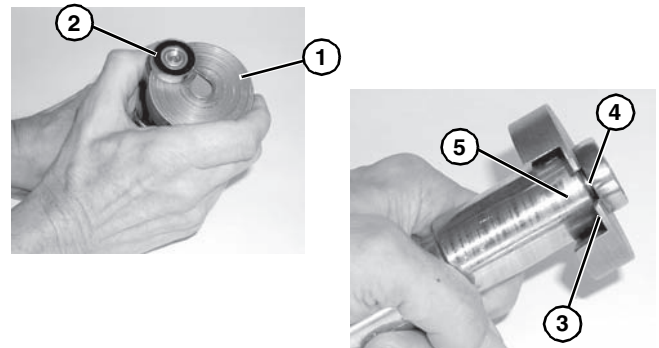

Figure 38
1. Place bearing removal tool part #456063 (**Figure 38, item 1**) below bearing (**Figure 38, item 2**) with lip (**Figure 38, item 3**) located in gap (**Figure 38, item 4**) between bearing and spindle hub (**Figure 38, item 5**) as shown.